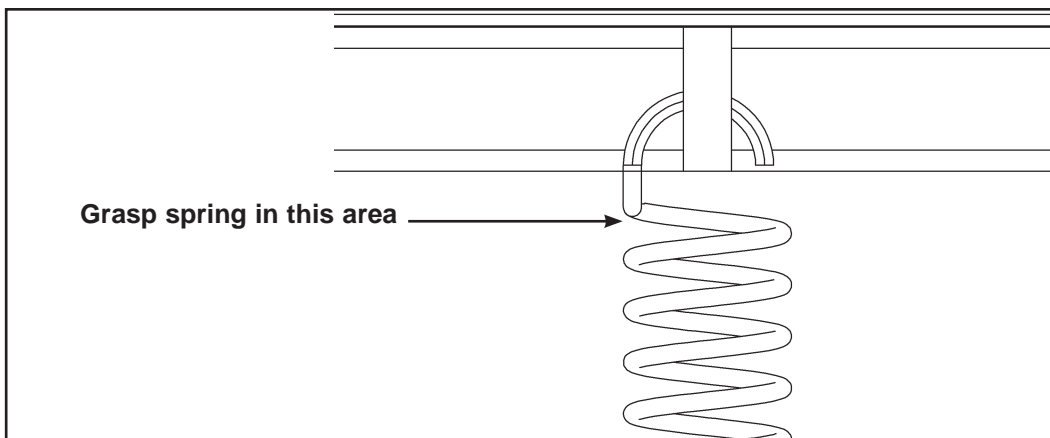

Figure 8
**7. Connect upper end of each spring.** (refer to 7A-D, Figures 8 and 9)